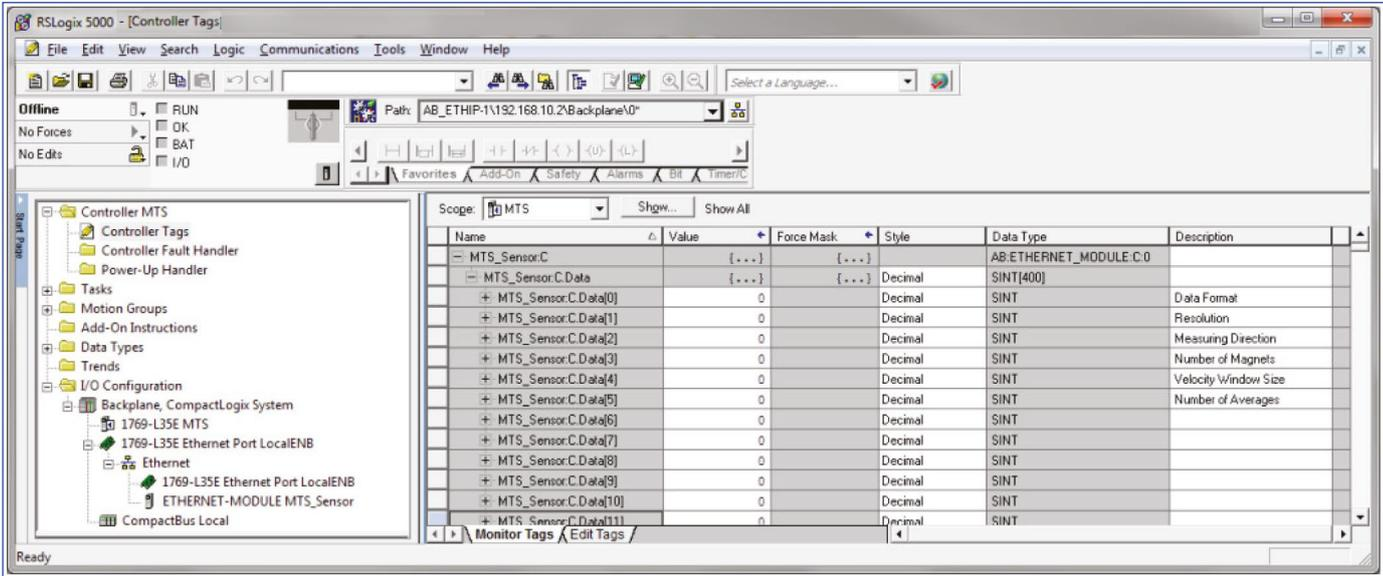

Fig. 124: Device control tags
**7.6.1** In the “I/O Configuration tree”, click to open the “Controller Tags” directory. The controller tag table displays in the left pane (Fig. 124). The description column fields will be blank by default.